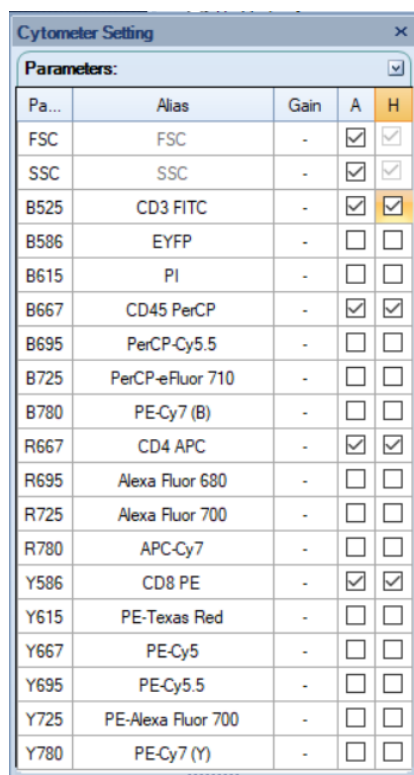

Figure 42. Define Sample Acquisition Parameters
- 2 Set the test parameters in the **Cytometer Setting > Parameters** panel (see Figure 42). By default, the **Height** parameters of FSC and SSC signals are always selected. Either **Area** or **Height** or both can be selected for fluorescent channels to be used in the experiment. In this example, select **FSC, SSC, B525, Y586, B667, R667 Height** and **Area** as detection parameters.